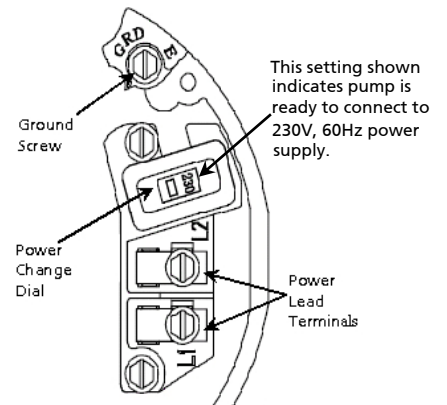
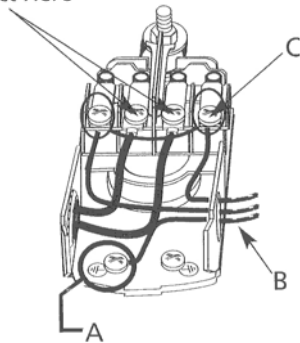

Figure 13- Voltage Set to 230 Volts, Dial Type
Figure 14- Voltage set to 230 Volts, Dial Type end Cover
Your motor terminal board (located under the motor end cover) should look like the one in Figure 13.
2. Select the UP knob position for 115V or DOWN position for 230V, until 115 or 230 shown in the dial window (see Figure 13).
When replacing motor, check wiring diagram on motor nameplate against diagram, see Figure 13 on page 15. If they are not the same, follow the diagram on the motor, see Figure 14.
1. Connect the ground wire first as shown in Figure 13 on page 15. The ground wire must be a solid copper wire at least as large as the power supply wires.
4. Connect the power supply wires to the pressure switch as shown in Figure 14.